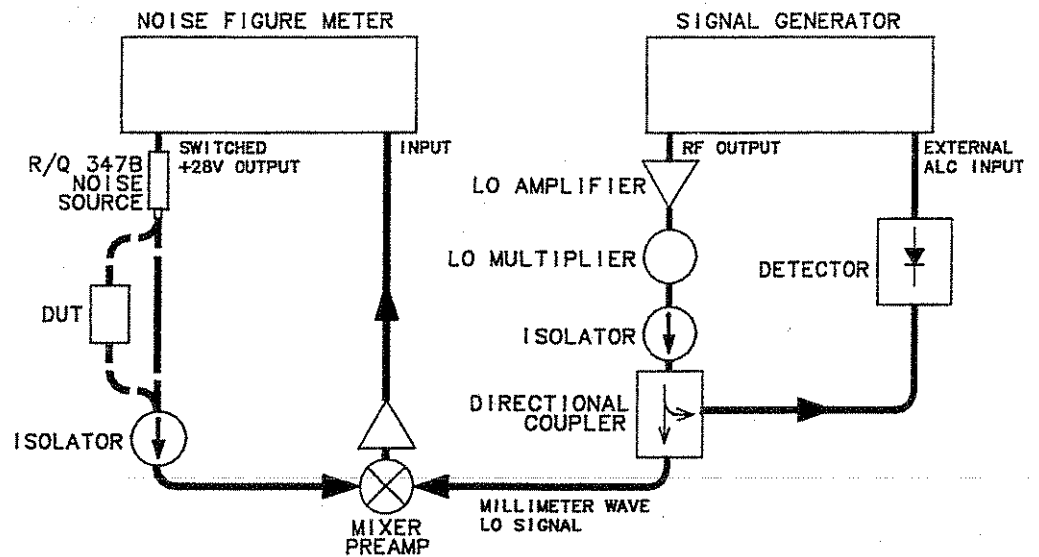
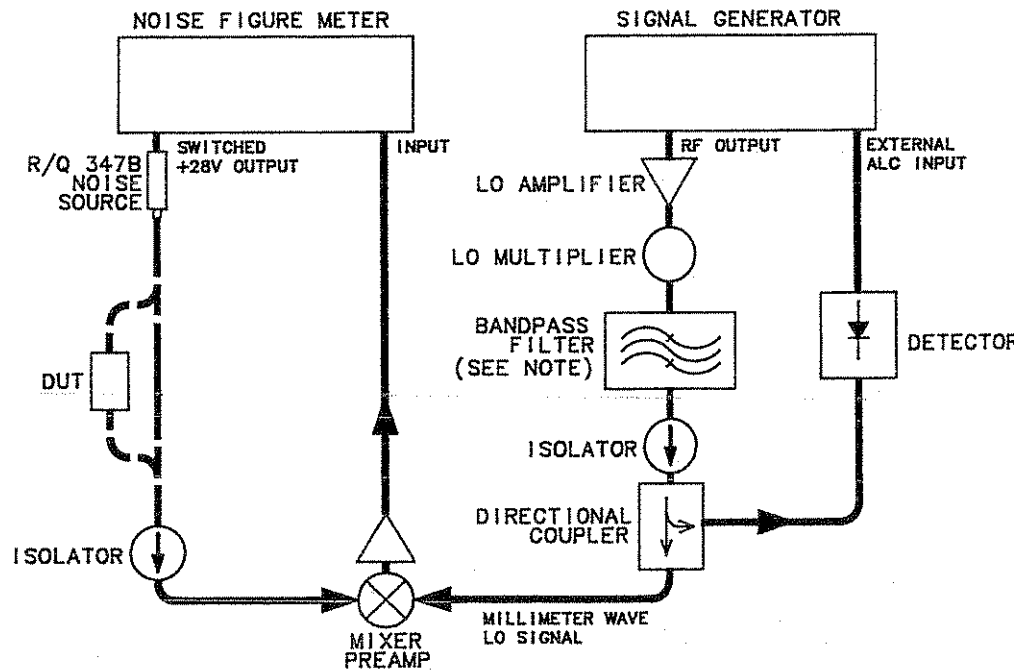

Figure 2. Noise Source Functional Test Setup
Figure 3. Noise Figure Measurement Setup
Noise figure measurements of devices (such as amplifiers, mixers, transistors, and receivers) can be made using the Noise Source with a noise figure meter. Figure 3 depicts a simple test setup for a noise figure measurement. Figure 2 is a similar setup to verify the Noise Source is operational. Note that the noise figure meter must have a  $+28 \pm 1V$  switched output.
Connect the equipment as shown in Figure 2 and follow this procedure:
1. Connect the equipment as shown in Figure 3 with the device under test (DUT) removed. Most of this equipment is described in Table 3.